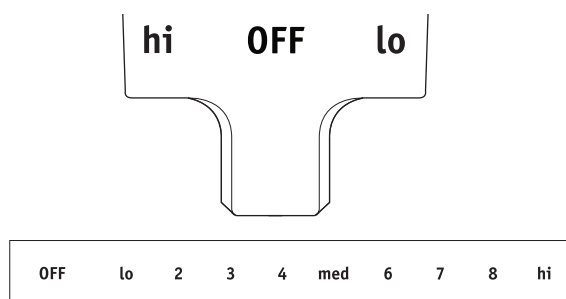

Figure 6: Control knob single surface element
2. Push in and turn the surface control knob in either direction to the desired setting (See Figure 6). Start most cooking operations on a higher setting and then turn to a lower setting to finish cooking. Each surface element provides a constant amount of heat at each setting. A glowing red surface heating area extending beyond the bottom edge of the cookware indicates the cookware is too small for the surface heating area.